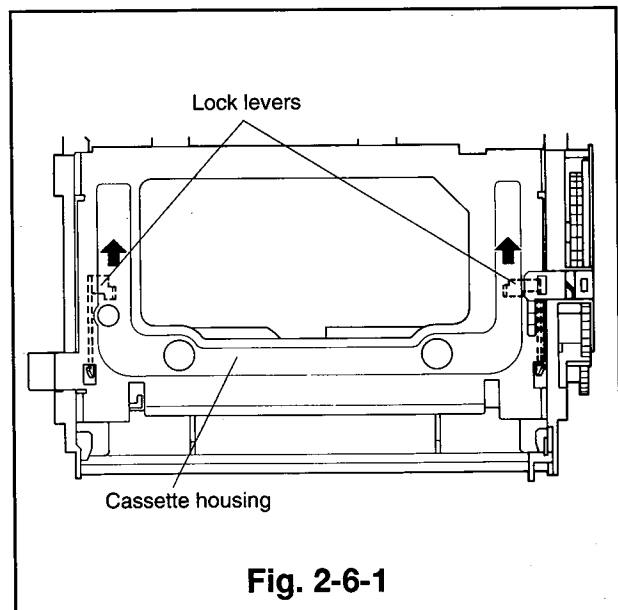
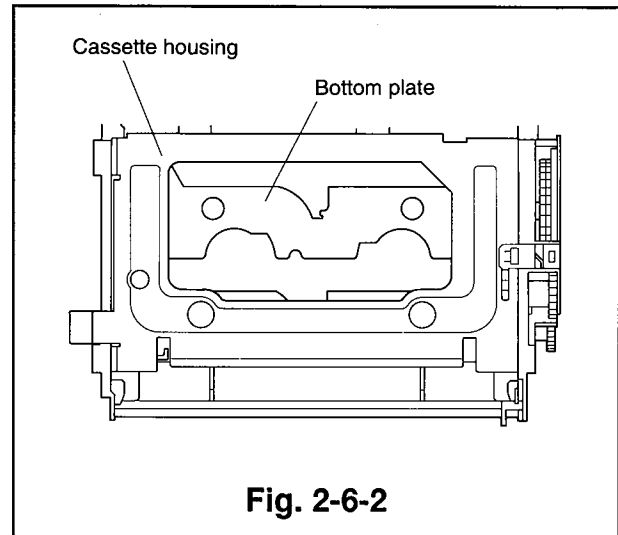
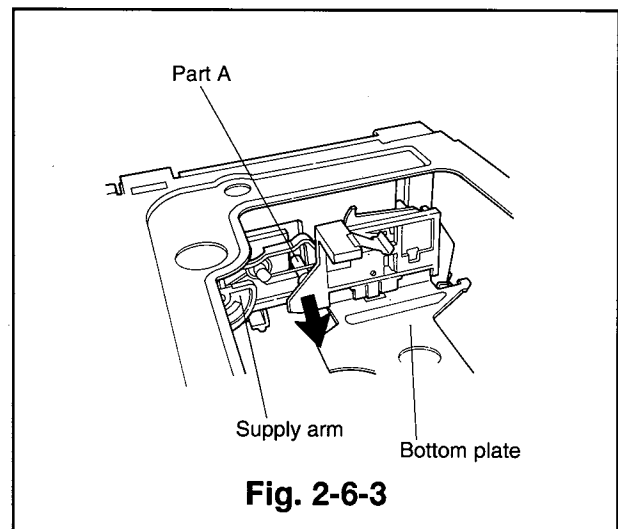

Fig. 2-6-1
Fig. 2-6-2
Fig. 2-6-3
- ③ Remove the sense gear.
- ④ Pull the lock levers on both the supply and takeup side, shown in Fig. 2-6-1, in the direction shown by the arrow to shift the bottom plate to the position shown in Fig. 2-6-2.
- ⑤ Remove the takeup arm.
- ④ Ensure the spring action is effective by holding the sense gear and turning the drive gear slightly clockwise, observing whether the drive gear returns when released.
- ⑤ Install the takeup arm so that the shaft attached to the bottom plate enters between the takeup arm and takeup spring after the bottom plate has been moved as shown in Fig. 2-6-2.
- ① Remove the cassette housing. (Refer to Para. 2-1 for the removal method.)
- ② Remove the side plate. (Refer to Item ② of Para. 2-2 for the removal method.)
- ③ Remove the sense gear. (Refer to Item ③ of Para. 2-2 for the removal method.)
- ⑤ Remove the takeup arm. (Refer to Item ⑤ of Para. 2-2 for the removal method.)
- ⑥ Pull part A, fixed to the supply arm, in the direction shown by the arrow to remove the bottom plate. (Refer to Fig. 2-6-3.
- ③ Insert the bottom plate so that the part A of it enters between the supply arm and the supply spring as shown in Fig. 2-6-3. Then install the bottom plate so that part C of it in the right position as shown in Fig. 2-6-6.
- ④ Follow the installation method in Item ⑤ to ⑧ in Para. 2-2.